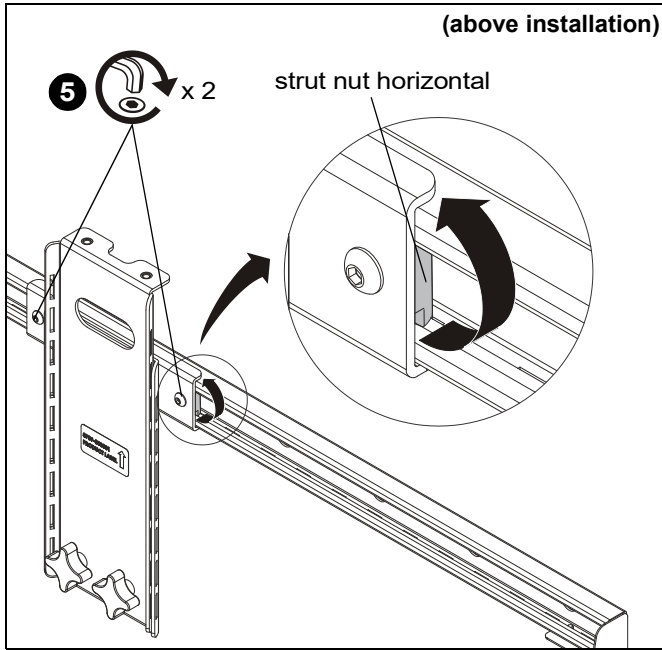

Figure 5
5. Rotate strut nuts until they are back in a vertical position and tighten button head cap screws. (See Figure 5)